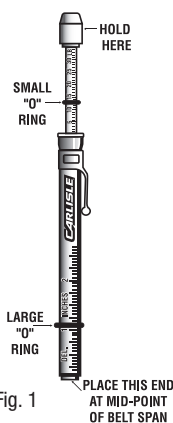

Fig. 1
2. Set the small "O" ring at zero (See Fig. 1) and press down the Carlisle Tensiometer at the center of the belt span.